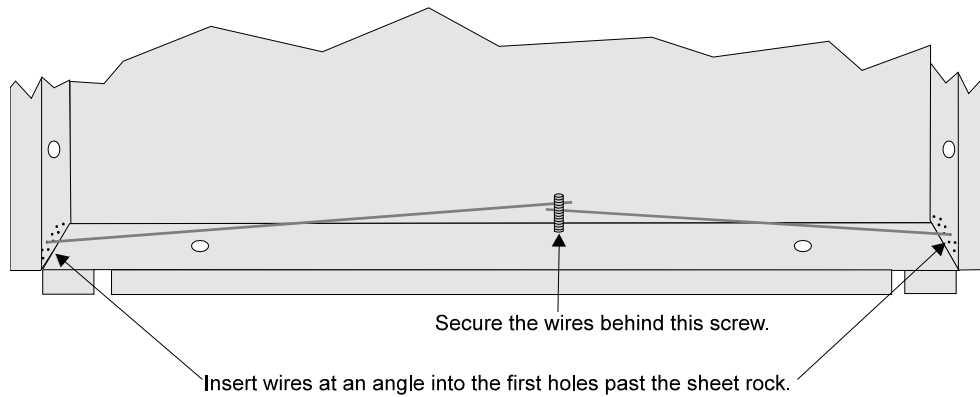

Figure 4-18 Flush Mounting the Back Box
3. Fit the annunciator back box into the hole and stabilize with mounting wires. Angle the mounting wires into the first hole past the sheet rock. Secure the wires behind the screws as shown in Figure 4-18. When all four wires are in place, the back box should fit snugly into the hole in the sheet rock.